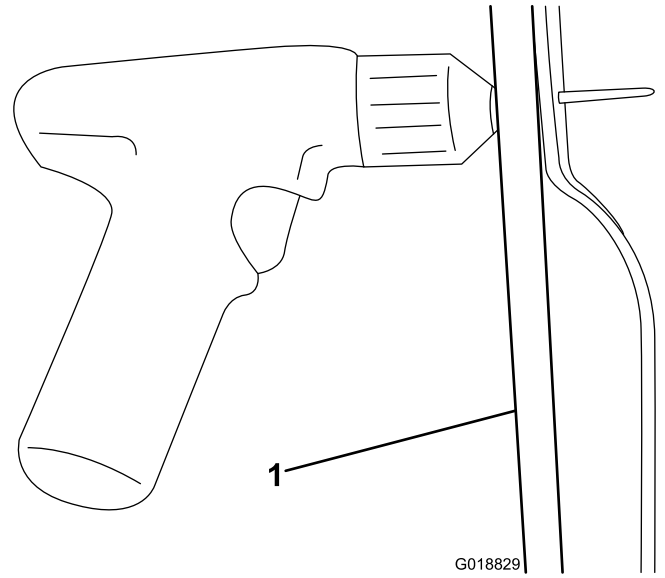

Figure 5
12. From the inside of the bed, use the 2 holes in the reinforcement bar nearest the wheel opening as a guide and drill 4.75 mm (3/16 inch) holes (Figure 5).